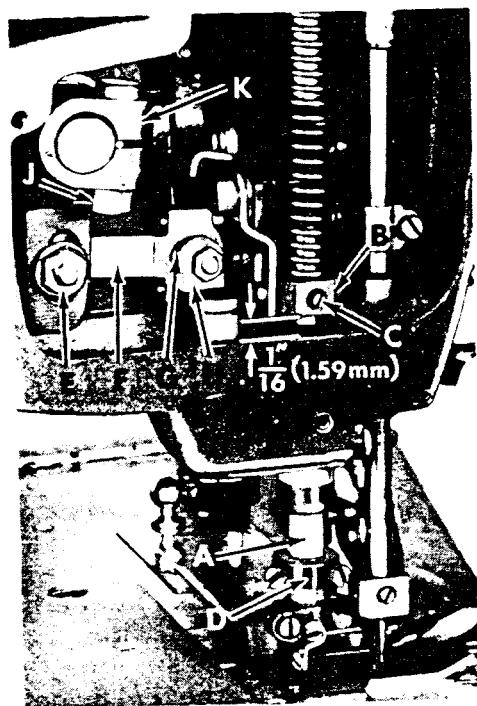

Fig. 14
The height of the presser bar (A, Fig. 14) is set correctly if it is possible to remove the presser foot when the foot lifter lever (B, Fig. 13) is fully depressed. Also there should be approximately 1/16 inch (1.59 mm) clearance between lower surface of the presser bar connection and guide (B, Fig. 14) and the bottom surface of head opening in the bed when the foot lifter lever is released and the presser foot resting on the throat plate, with the feed dog down below the throat plate.
Set the presser bar collar (D, Fig. 14) so that the presser foot does not contact the spreader when raised.
Set the arc travel of the spreader, as listed below, by loosening nut (E, Fig. 14) and moving the connecting link (F) up or down to the desired amount of arc travel. Measurement of the spreader arc travel is made by placing a scale between the two extreme spreader arc travel points.
Set the ball stud (G, Fig. 14) in the spreader holder carrier (H) square to the front of the bed when at the middle of its travel as viewed in Figure 14. This is accomplished by loosening nut (J) and moving the spreader rocker shaft arm (K) to position the carrier properly.